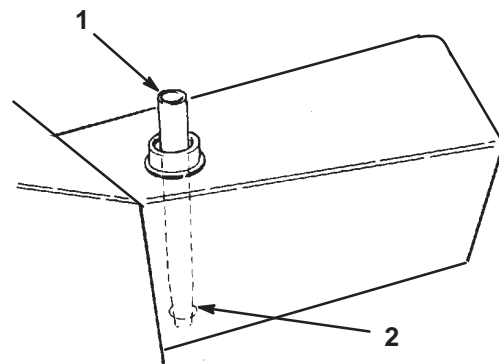

Figure 6
16. Remove the hydraulic fluid reservoir cap and insert the reservoir plug (Fig. 6) to block the outlet. This will retain most of the fluid in the reservoir when the caps are removed from hydraulic tubes.